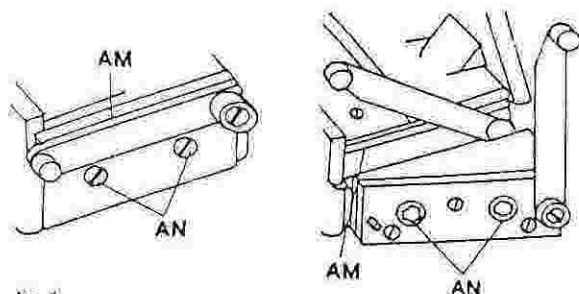

fig. 4
If, for any reason, the trimming-line (AM, fig. 4) gets out of place, re-adjust it with the two screws (AN). This is however a delicate operation which requires technicians' skill and precision.